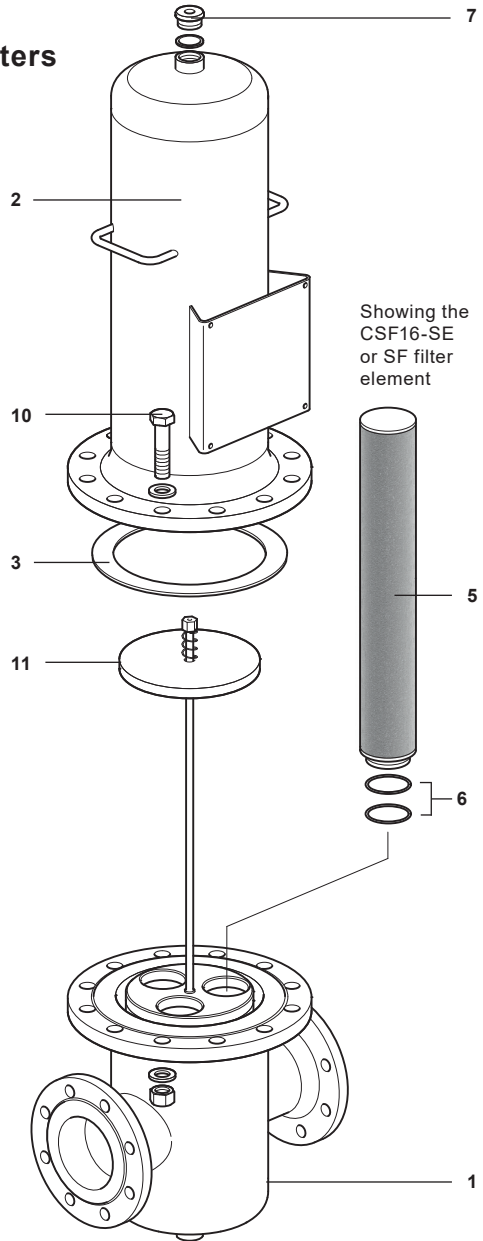

Fig. 2
See Figure 2 Stainless steel sterile air filters on page 7 for part recognition.
4. The new filter element seals (2 off, item **6**) should then be lubricated using a lubricant suitable for the application, before fitting to the filter housing bowl (1).
5. The filter element needs to be gently pushed into the filter housing bowl (1).
6. **When multiple elements are fitted**, the filter support assembly (11) must be assembled and fitted as shown in Figure 2.
7. Ensure the filter housing seal (3) is fitted.
8. **For sizes DN8 to DN80:** The housing ring (4) should then be carefully placed into the seating land on the filter housing head (2), before then gently lowering the filter housing bowl (1) over the filter element and tightening the housing ring (4). The housing ring (4) is designed with a coarse thread to minimise the possibility of galling. Thread lubrication is not normally necessary. However, a thread lubricant may be used if required.
9. **For sizes DN100 and DN150:** Gently lower the housing head (2) over the filter elements and place it onto the housing bowl (1). Tighten the housing bolts to the recommended torque - see Table 1.